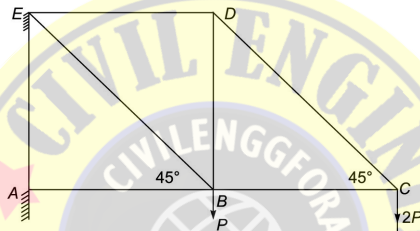

Fig. Q. 25
25. The member force in AB of truss shown in the Fig. Q. 25 is